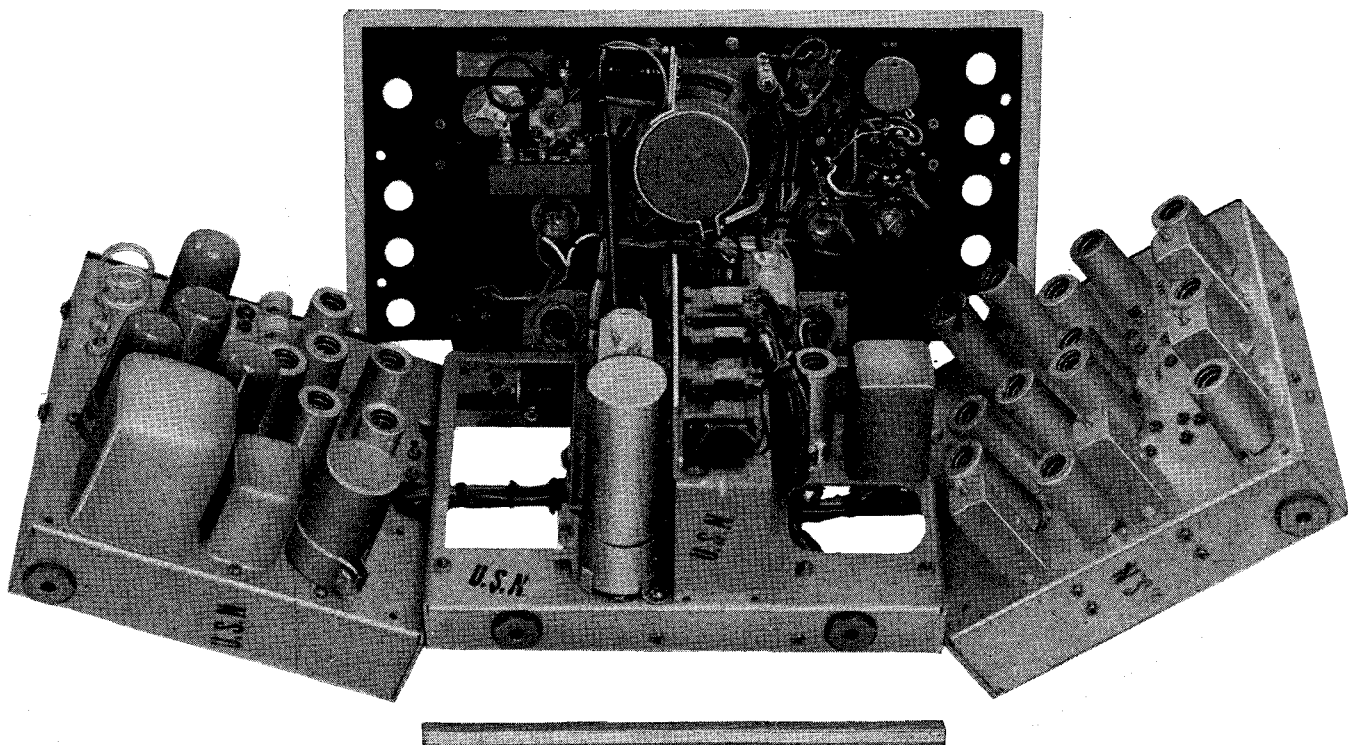

Figure 5-10—Navy Type COL-43065 Radio Transmitter-Receiver, Dismantled View
(Refer to figure 5-10.)
(1) Remove the ANTENNA COUPLING adjustment screw.
(2) Remove the eight Phillips head bolts located around the edge of the front panel. Save all of the insulating spacer washers.
(3) Tilt the top of the panel forward. This will provide sufficient space for replacing the panel components.
(4) When assembling the panel to the chassis make certain that the insulating washers are in place so that the panel is not shorted to the chassis.
b. CHASSIS COMPONENTS.—To replace inaccessible components which are mounted on the receiver, transmitter or rectifier section, the chassis may be disassembled as shown in figure 5-10 and outlined in the following steps:
(1) Place the chassis on a bench with the panel facing upward.
(2) To loosen panel repeat steps (1), (2), (3) in the above paragraph.
(3) Press out the two rubber grommets around the wire cables which connect the transmitter and
(4) Remove the bolts which fasten the transmitter and receiver sections to the rectifier section.
(5) To avoid strain and damage to the connecting cables, support the panel and chassis sections with both hands while turning the chassis to the normal position.
(6) Remove the spacer bar between the transmitter and receiver section.
(7) To avoid strain and damage to the connecting cables, use wood blocks to support the transmitter and receiver sections which will tilt outward as shown in figure 5-10.
(8) After repairs have been made and the chassis is reassembled, make certain that the wire cable grommets are in place and that the panel is not shorted to the chassis.